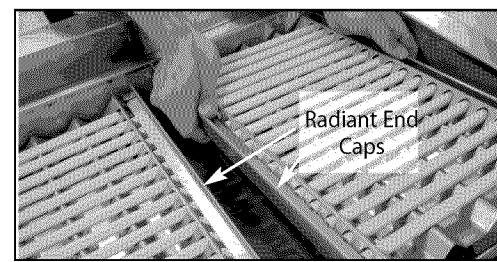

Fig. 41
5. Place the assembled radiant in the unit (Fig. 41).
Placement of the trays in the grill are critical to ensure even cooking performance. Lock radiant end caps must be in the middle of the grill. See Figure 41.